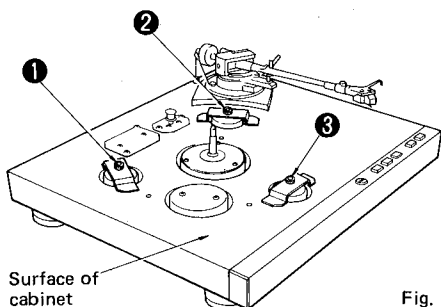

Fig. 1
1. Adjust so that the space between platter and surface of cabinet is $4\text{mm} \pm 0.2\text{mm}$ by turning screws ① to ③ as shown in the Fig.1.